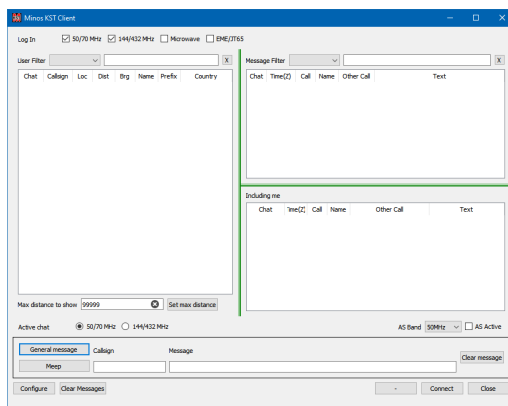
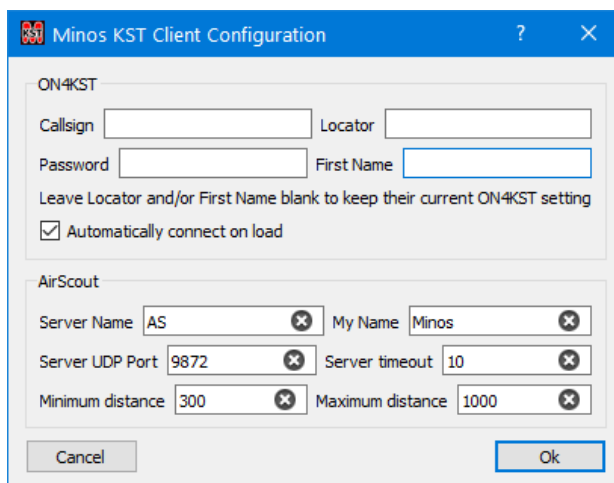

Figure 133 – KST Startup
Figure 134 – KST Client configuration
‘**Configure**’ – invokes the Configuration panel (Figure 134) which then requires:
- **Configure** – invokes the Configuration panel (Figure 134) as described above.
If the 'AS Active' box is ticked (just above the 'Clear Message' button on the bottom right of Figure 133) then AirScout integration is started, subject to the requisite configuration information having been supplied (see Figure 134):